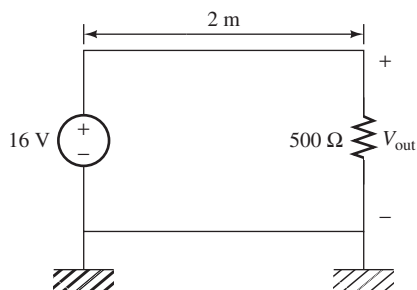

FIGURE P11.46 Circuit for Problem 11.46.
11.46 (A)* Determine the voltage output, V_{out} , shown in Figure P11.46 if the ground of the voltage source and ground of the load are connected. The material of the wire that connects the devices in the circuit is copper with the resistance per length of $0.54 \Omega/m$. If the connection between both grounds is cut, what is the voltage output, V_{out} ? (Provide the solution up to two decimal points.)